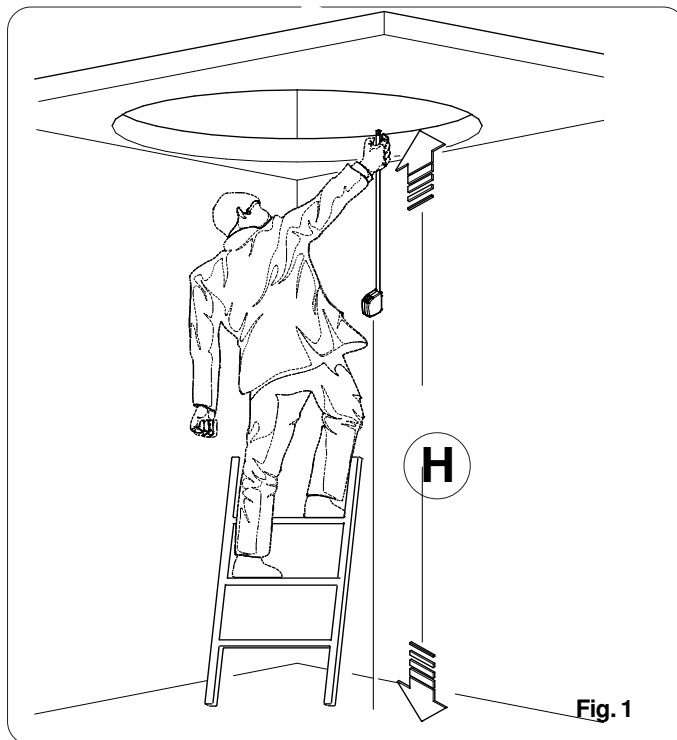

Fig. 1
- Measure the "H" height from the top ceiling to the bottom floor. In addition, measure the stairwall staircase. (Fig. 1)